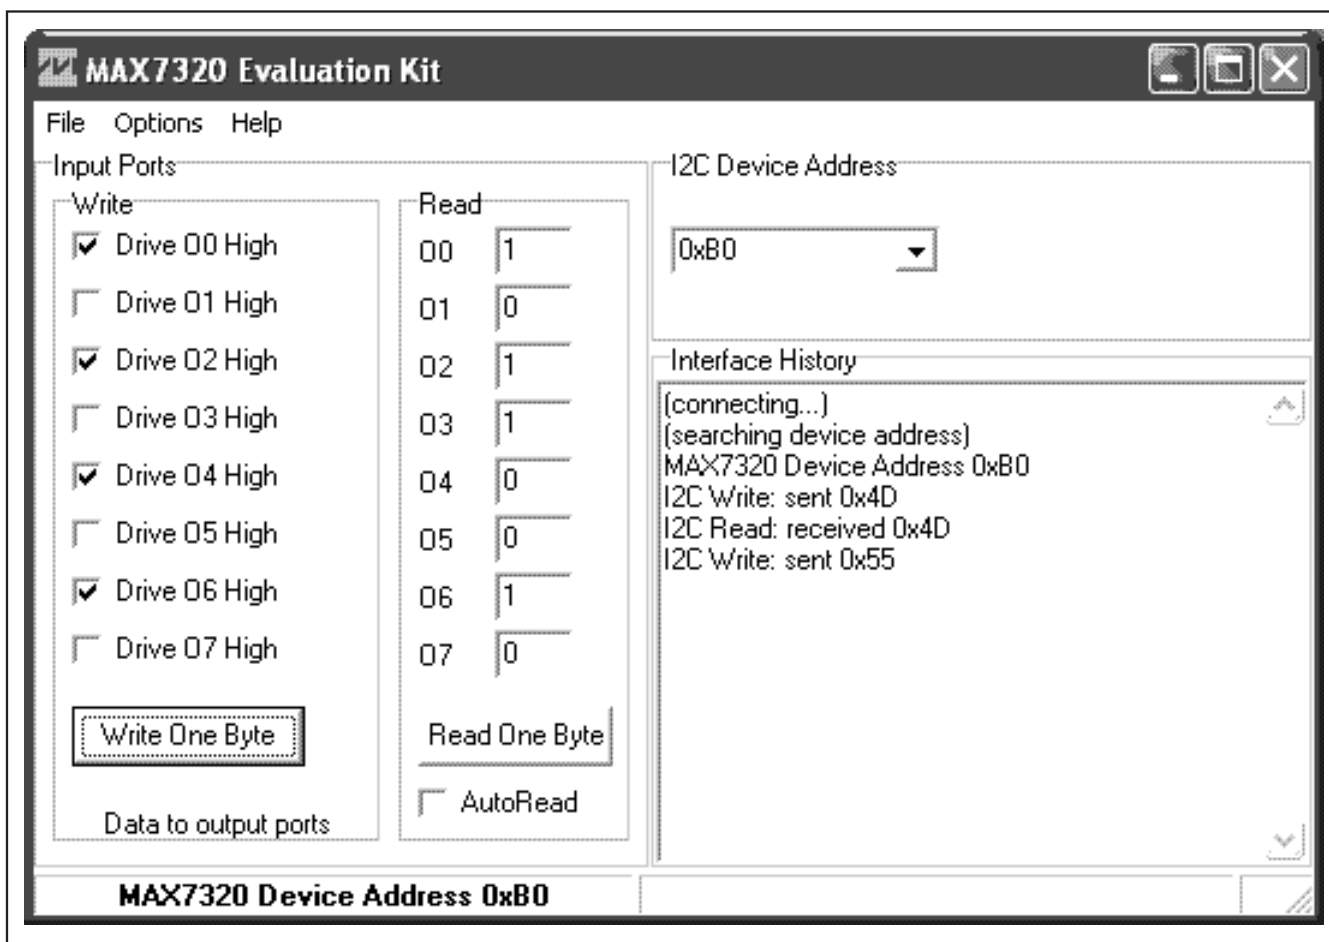

Figure 1. MAX7320 EV Kit Software Main Window
- 6) Start the MAX7320 EV kit software by opening its icon in the **Start | Programs** menu. The EV kit software main window appears, as shown in Figure 1.
The main window of the evaluation software is shown in Figure 1.